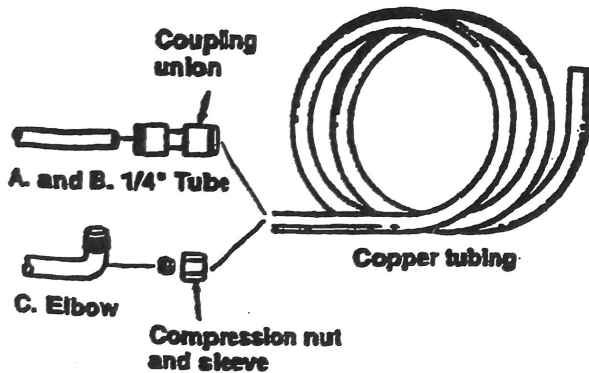

Figure 1
- a. 1/4" male or female flare connection: Cut off flared portion of copper tubing attached to water valve and remove flare connection. Make sure tubing is round and cut off square. Connect tubing from water valve to copper tubing furnished with the 1/4" x 1/4" coupling union included in this kit. Be sure tube is completely inserted in union. See figure 1.
- b. 1/4" copper tube connection: Make sure tubing is round and cut off square. Use the 1/4" x 1/4" coupling union (furnished) to connect the water valve tube to the copper tubing in this kit. Be sure tube is completely inserted in union. See figure 1.
- c. Threaded elbow connection: First slide compression nut on copper tubing, then slip compression sleeve on tubing. Insert tubing into elbow making sure tubing is bottomed in valve. Tighten compression nut on valve - take care not to over tighten. See figure 1.